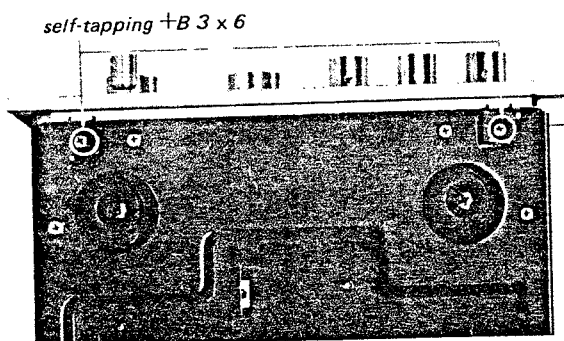

Fig. 2-3 Bottom view
4. Remove the two self-tapping screws (+B 3 X 6) securing the panel at the front edge of the bottom plate as shown in Fig. 2-3. This frees the front panel.